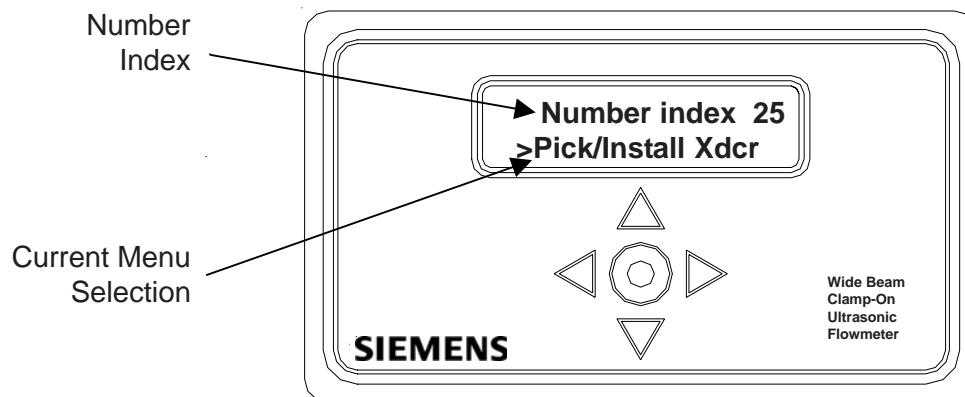

Figure 3
- Connect transducer cables ensuring upstream/downstream orientation is correct (Figure 3). Confirm installation is functional by completing flowmeter menu.